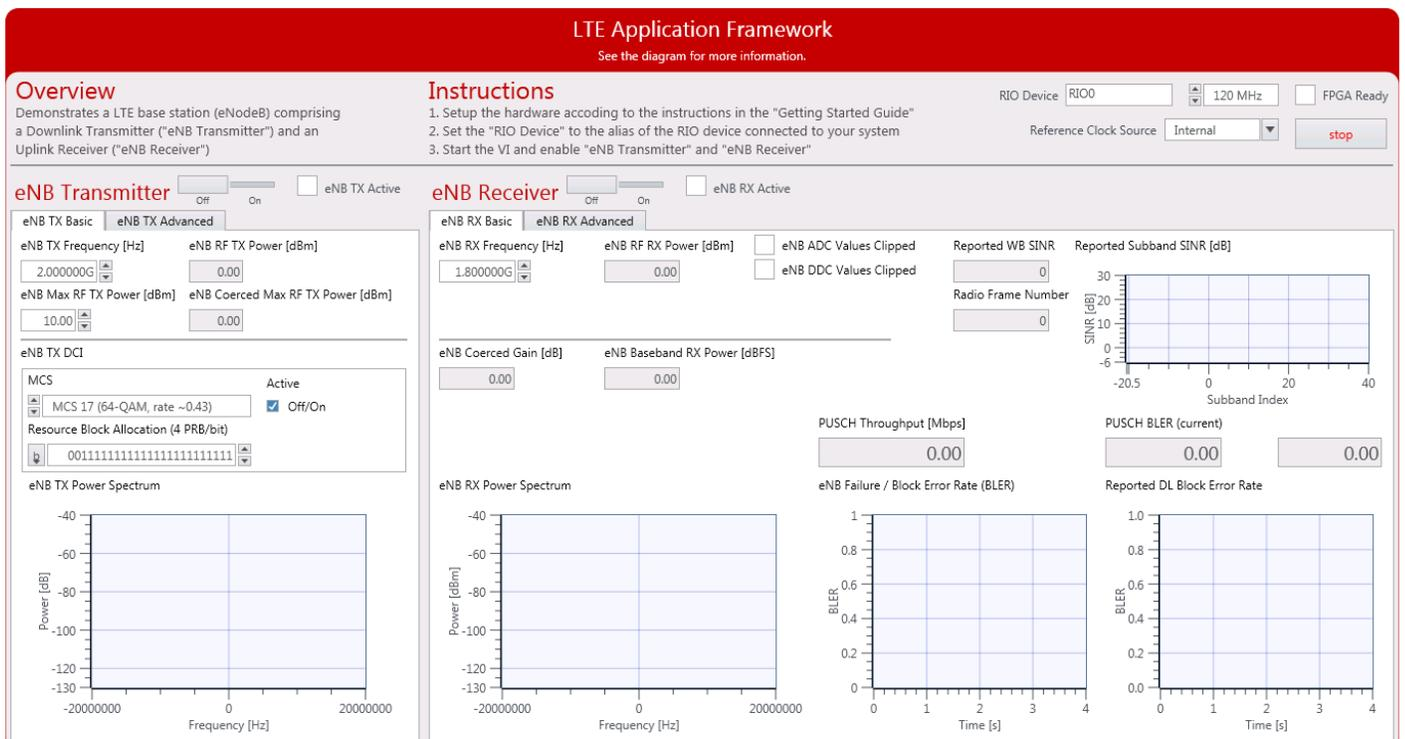

Figure 13 Front panel of LTE Host eNodeB.gvi
3. Within that project, open the LabVIEW top-level host VI for the eNodeB operation mode, **LTE Host eNodeB.gvi**. The front panel of this VI is shown in Figure 13.